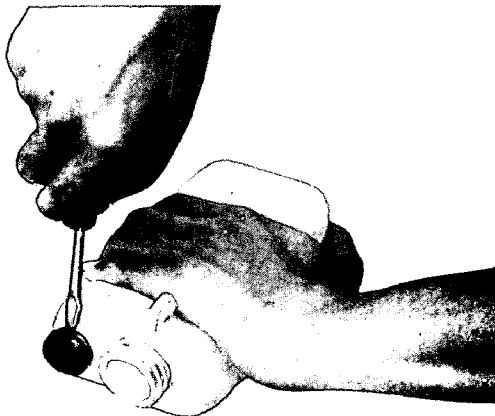

Fig. 2
- 2) After removing fuel pump, push the head of rubber tube toward arrow mark in Fig. 2 with a screwdriver of minus top (preferably not sharpened) and remove rubber tube.